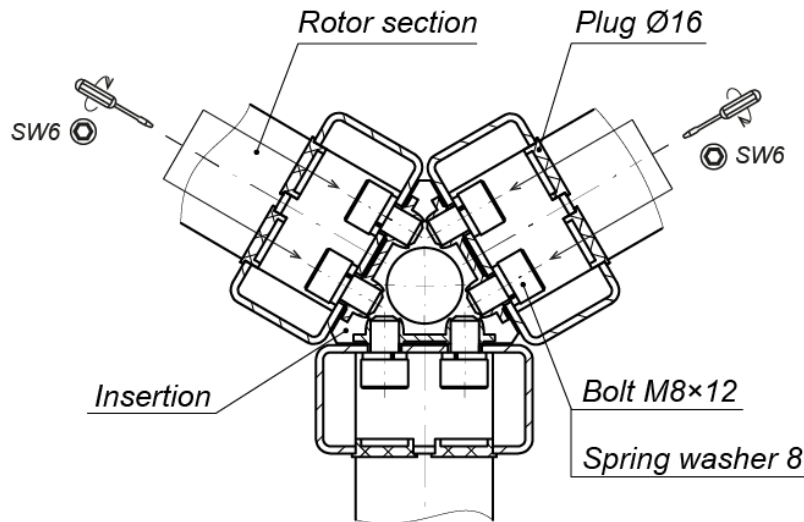

Figure 20. Junction of the rotor (1) sections
- Fasten successively the two remaining sections to the attachment points of the section installed using 4 bolts M8×14 for upper mounting points and 20 bolts M8×12 (wrench SW6) for the rest of the attachment points with spring washers (Fig. 20). It is recommended to use the tool that adheres to the bolt being tightened, for instance, use the tool with a magnet tip for the works on the steel rotor. Stainless steel bolts are applied for the stainless steel rotors, in this case a sticky tape wrapped around the tip of the tool or some other ductile materials are advised to be used.